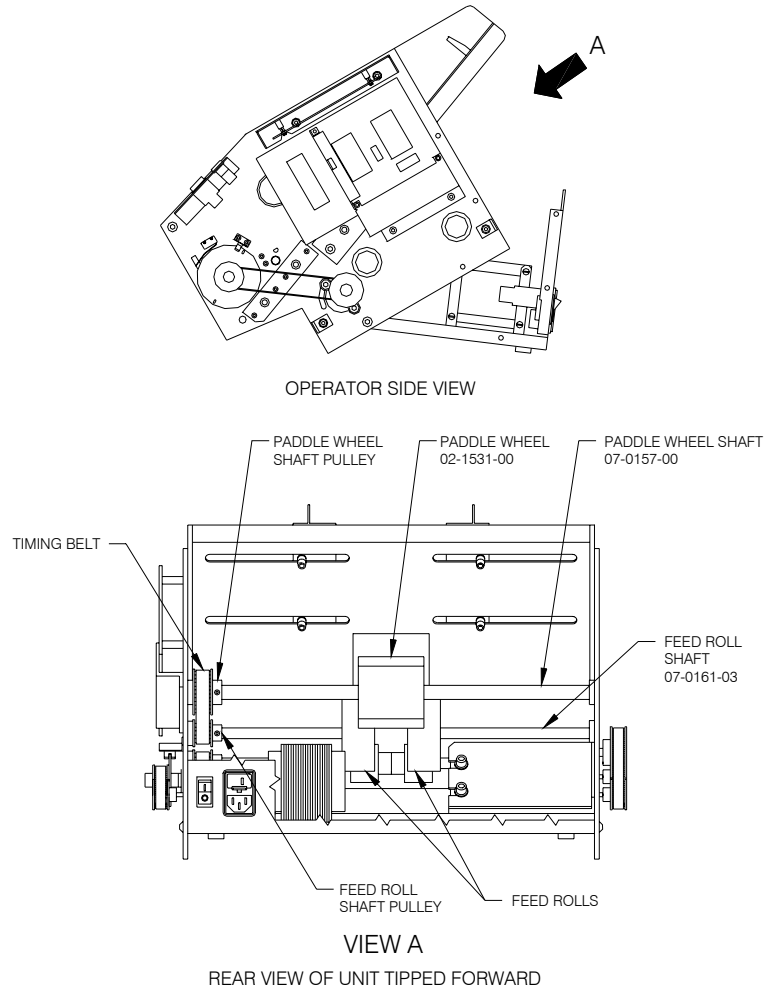

Figure 7.10 -- Inside View of the Base
6. Push the FEED ROLL SHAFT through the hole in the non-operator side FRAME and out of the BASE. Pull the TIMING BELT off the FEED ROLL SHAFT PULLEY. (Refer to **Figure 7.10.**)
(Refer to **Figure 7.10**.)
12. Place the TIMING BELT around the FEED ROLL SHAFT PULLEY. Make sure the TIMING BELT is around the PADDLE WHEEL SHAFT PULLEY also. The tension is fixed. (Refer to **Figure 7.10.**)